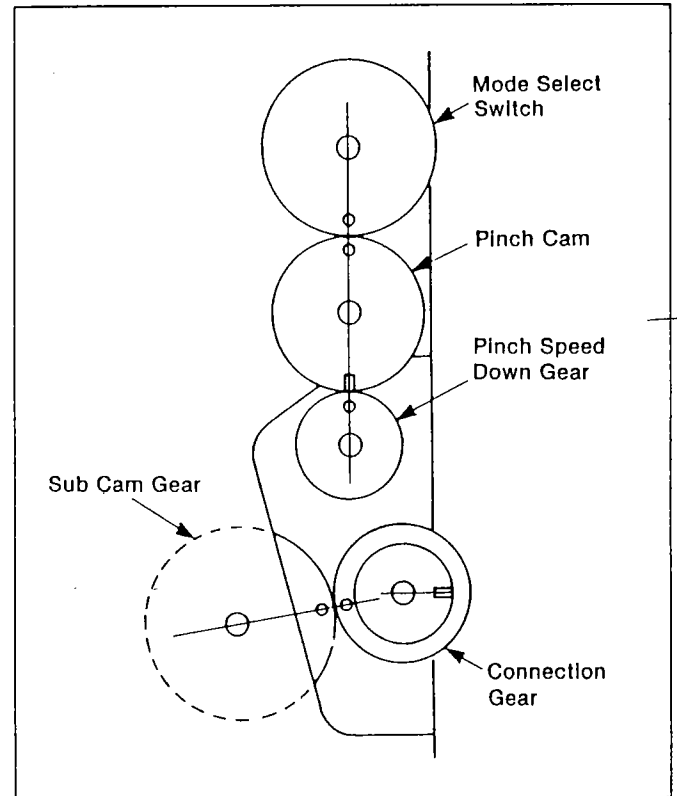
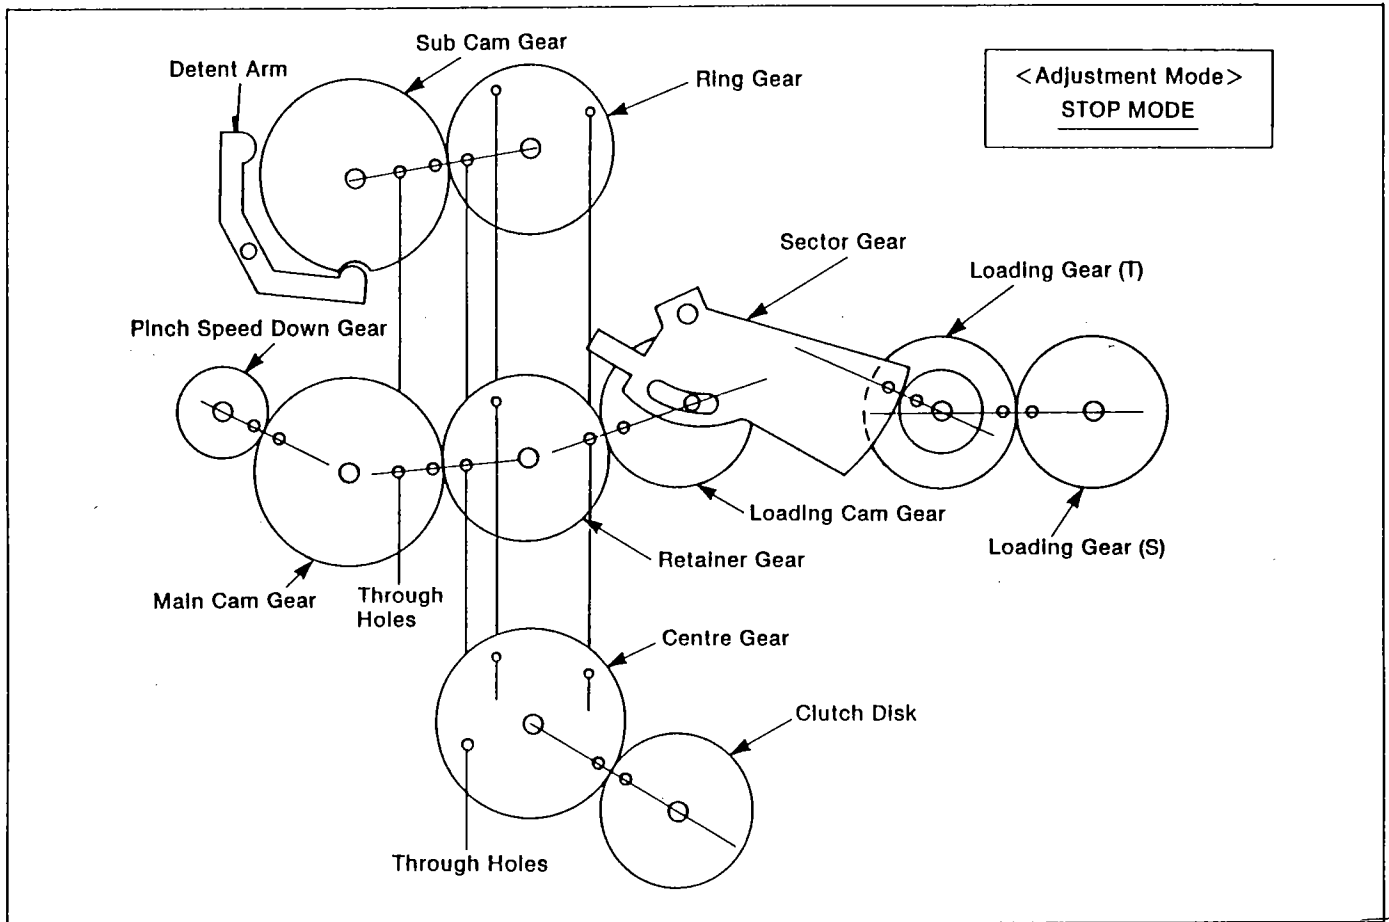

Figure M36 Bottom View of Overall G-Mechanical Condition
Figure M37 Top View of Overall Mechanical Condition
The overall mechanical condition (alignment) of bottom and top view are shown in Figure M36 and Figure M37. This mechanical adjustment is performed in STOP mode.
It may be best to also align Connection Gear (on top side) with Sub Cam Gear as shown in Figure M36.
A. Confirmation of STOP (Sub-load) Position (Refer to Figure M37)